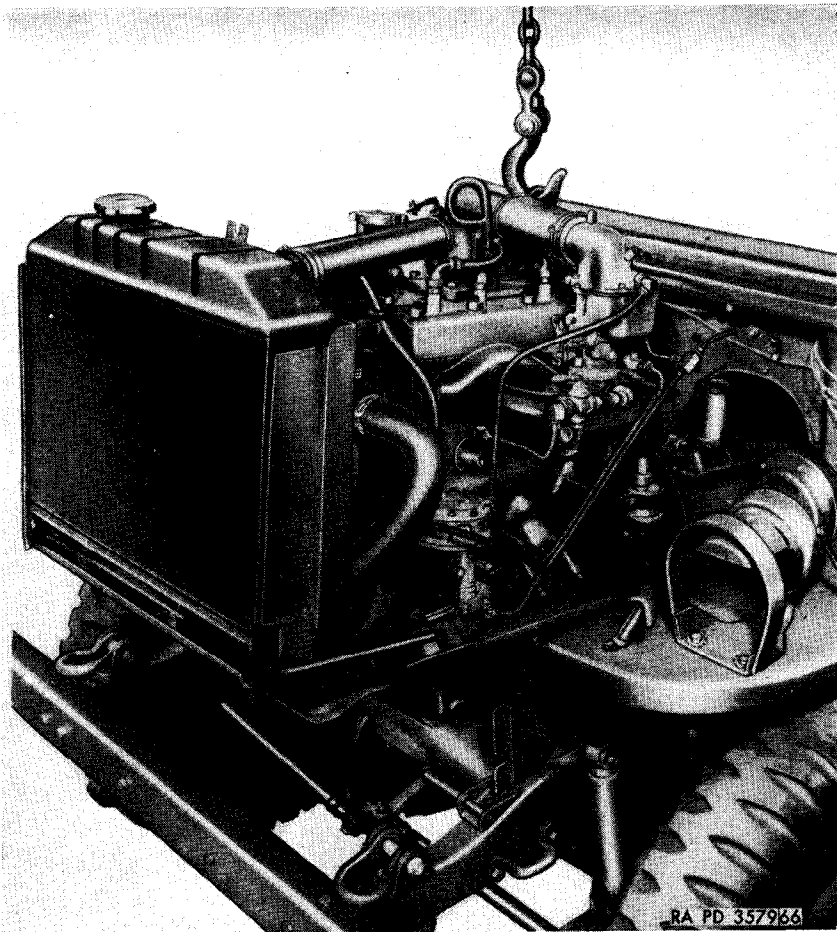

Figure 23. Lifting power plant from vehicle.
p. ATTACH LIFTING HOOK (fig. 23). Install a lifting hook in the rear lifting eye on the cylinder head. Place a slight tension on the lifting chain or cable.
While rolling the vehicle to the rear, carefully lift power plant out of vehicle (fig. 23). Block up power plant.